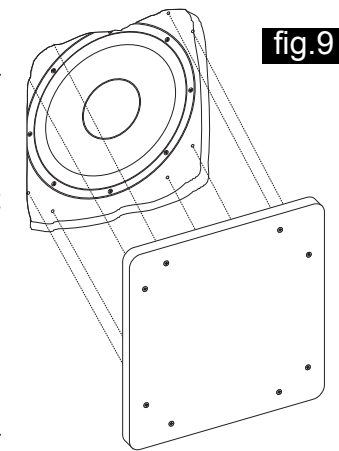

fig.9
9. Once the drywall and paint are complete, remove the wood cover and attach the bezel to the enclosure via the (8) 8 X 2" panhead screws (fig. 9). Tighten the screws snugly, making sure not to over-tighten, as this may compromise the fit of the bezel. DO NOT USE a power screwdriver for this. The foam strips on the drywall side of the bezel frame reduce unwanted vibrations against the drywall and will compress slightly to allow the bezel frame to rest flush against the wall.